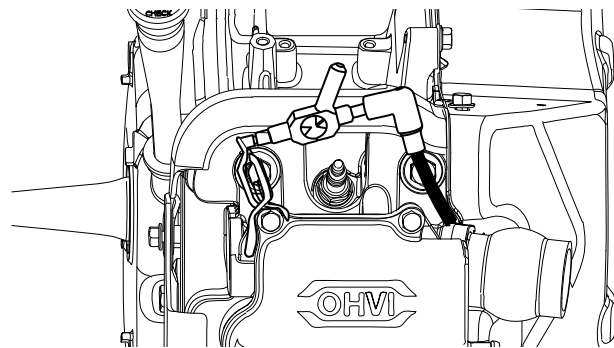
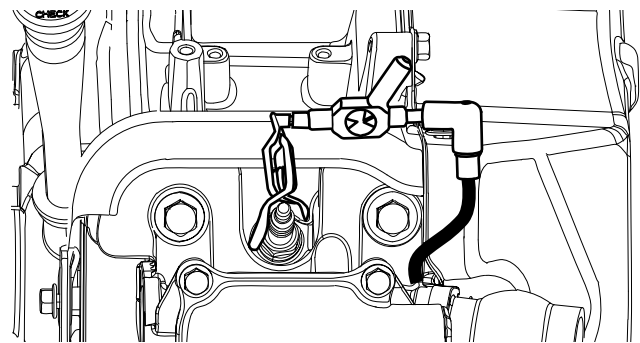

Figure 4-10. Testing Ignition System
Figure 4-11. Checking Engine Misfire
3. See Figure 4-10 and Figure 4-11. Ground spark tester clamp by attaching to cylinder head.